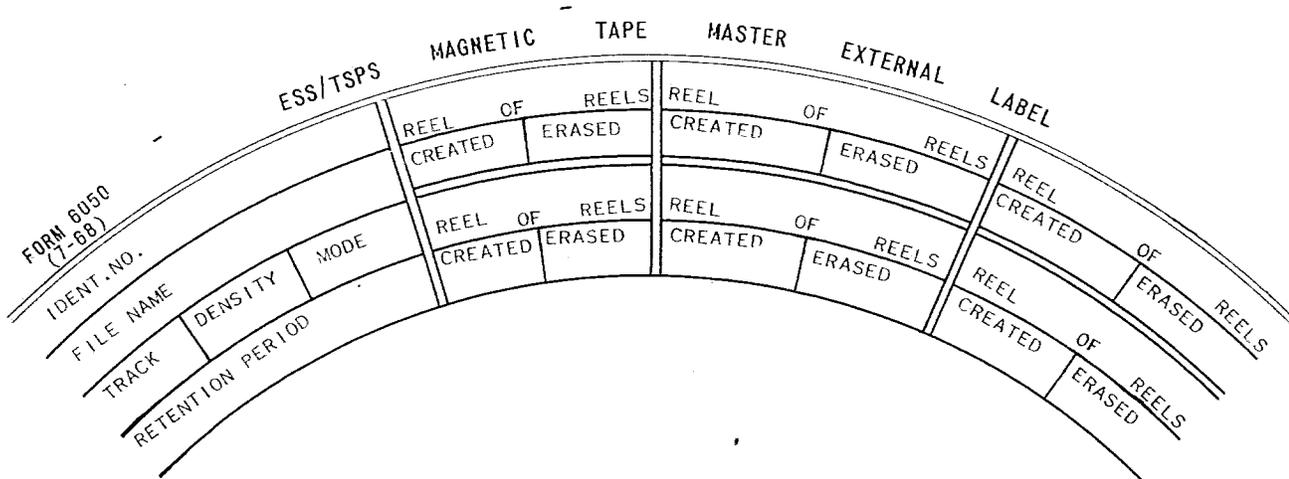

Fig. 4—ESS/TSPS Magnetic Tape Master External Label
(1) Form 6050 (Fig. 4), ESS/TSPS Magnetic Tape External Label, shall be attached to each tape reel to provide additional identification to the EDP center. Each label has sufficient space available for six uses of the tape and should be filled in before tape shipment to the EDP center.
(2) Form 6050 provides for the following information from the using facility.